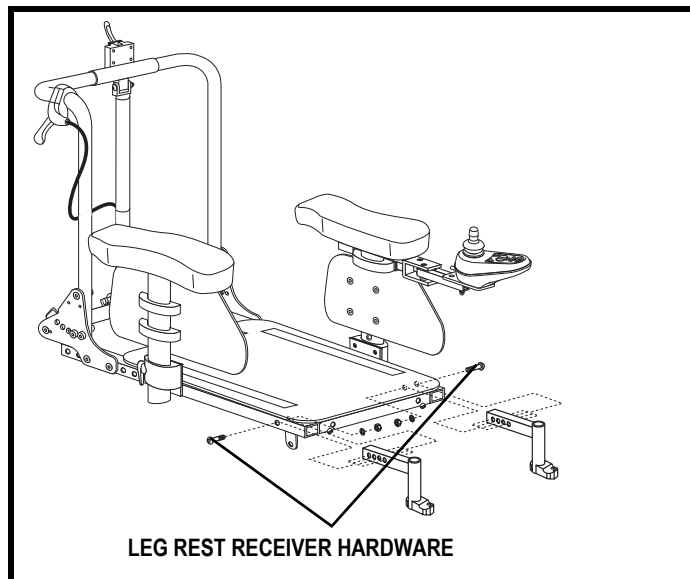

Figure 14. Leg Rest Depth Adjustment
1. Loosen the leg rest receiver hardware. See **figure 14**.